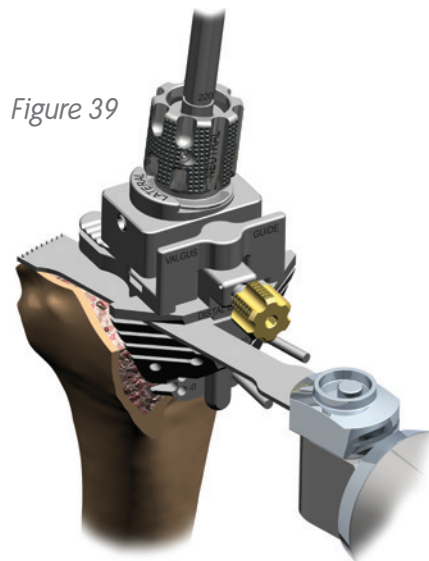

Figure 39
3. Pin the distal cutting block, using at least one oblique pin, and resect the distal femur (Figure 39).